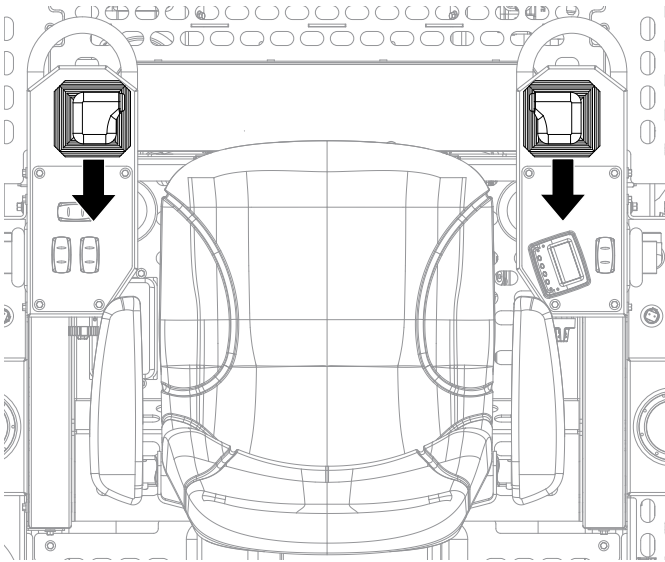

Figure 24. Joysticks (Reverse)
- Pull both the left and right joysticks **backward** (Figure 24) and repeat steps 2 through 5 while substituting the word 'reverse' for 'forward'.